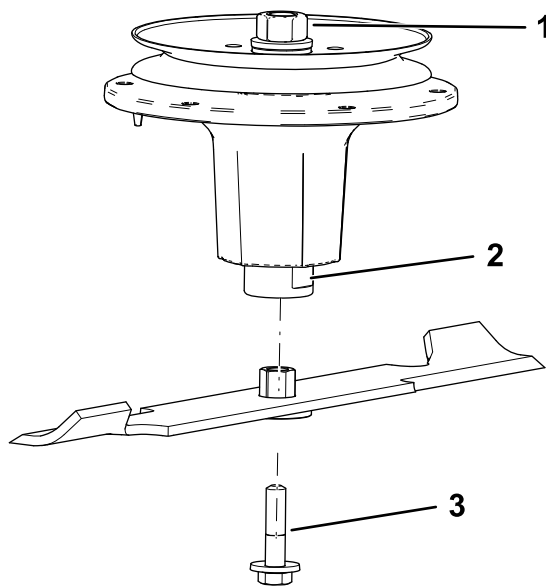

Figure 111
2. Install the bushing/blade assembly into the spindle shaft (Figure 111).